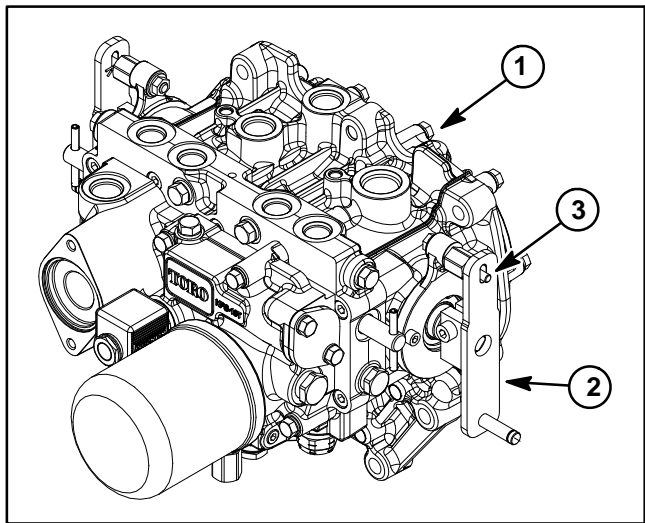

Figure 57
A. Align transmission control arm with transmission side cover with a 3/8" alignment pin (Fig. 57). This ensures that transmission is in the neutral position.